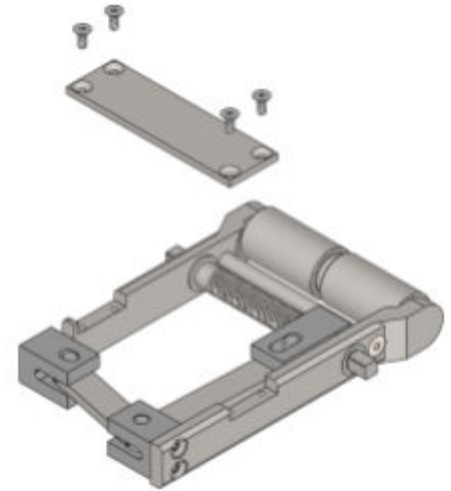

figure 3
6. Using a 1/8 hex key, remove the 4 screws securing the plate to the two side arms. (See Figure 3)